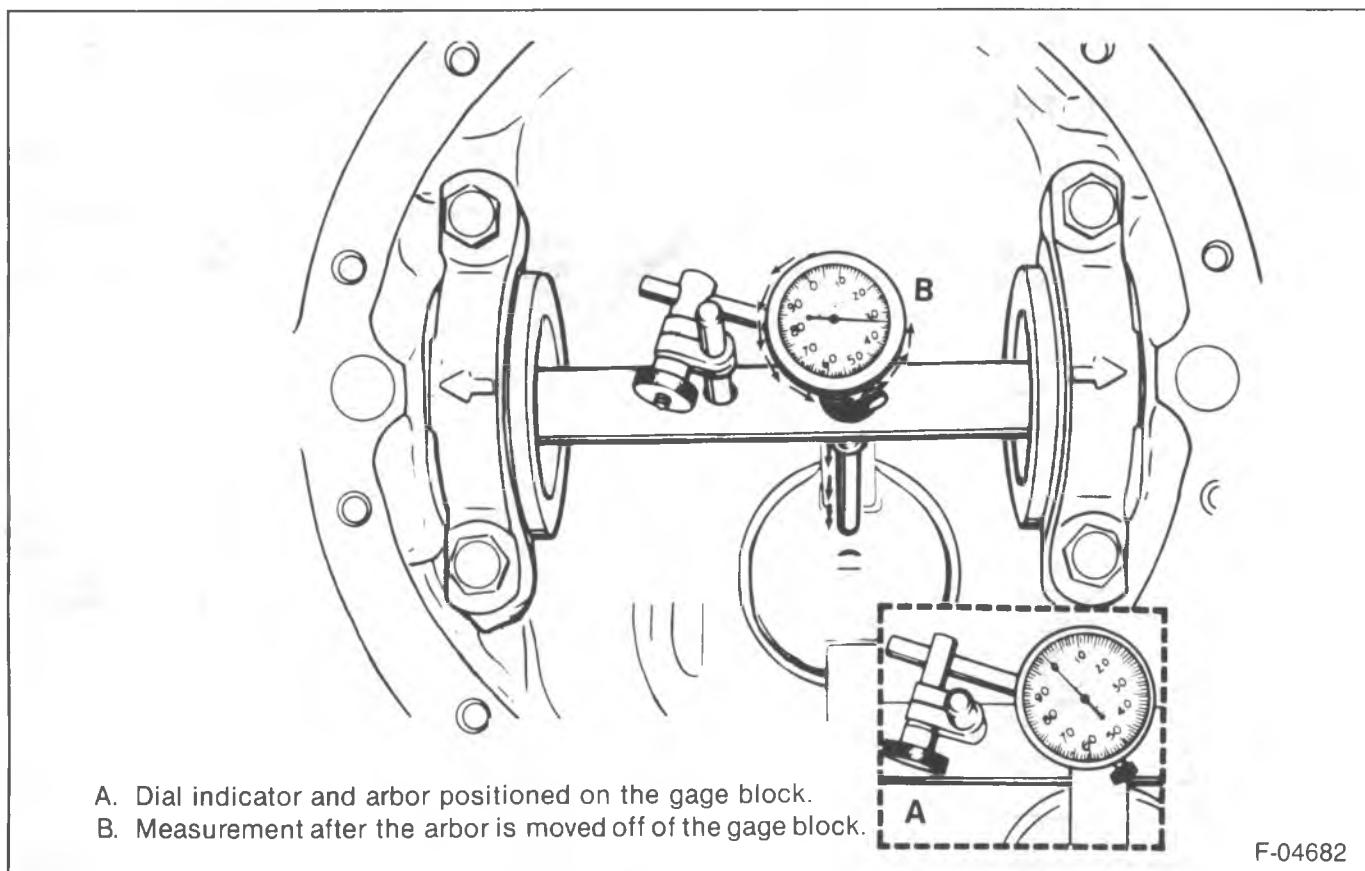

Figure 13—Checking Pinion Depth
12. Set the dial indicator at zero. Push the indicator down on the indicator shaft until the needle rotates approximately $\frac{3}{4}$ of a turn to the right. Tighten the dial indicator in this position (figure 13).
EXAMPLE: If the indicator needle moved to the left 1.70 mm (0.067-inch) to a dial reading of 0.84 mm (0.033-inch) as shown in figure 13, record the dial reading of 0.84 mm (0.033-inch) not 1.70 mm (0.067-inch).